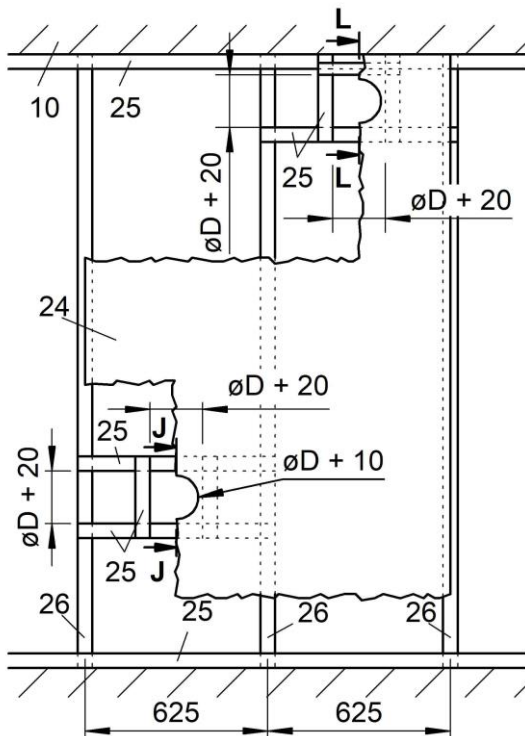
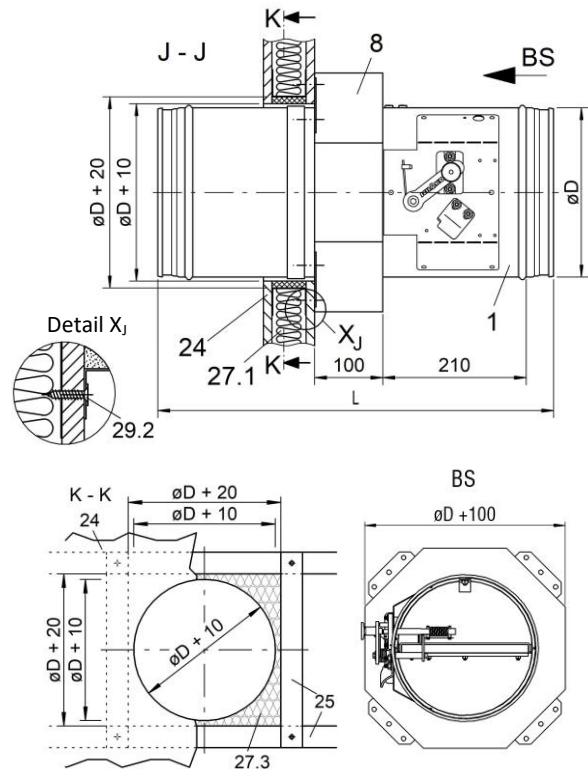

Figure 60: Metal stud frame plus required exchange parts for BSK-RPR with mounting frame AR (dry installation F30/F60), during the assembly of the wall
Figure 61: Dry installation on lightweight partition wall (F30/F60) with mounting frame AR, during the assembly of the wall
- Mount the metal stud frame, provide necessary metal post exchange parts (pos. 25) as shown on Figure 60 and Figure 61.
- Insert the mineral wool (of the wall), also in the area of the metal post exchange parts. If no mineral wool is to be used for the wall itself, mineral wool (pos. 27.3) must be inserted in the area of the exchange parts.
- Mount the wall panellings on both sides (pos. 24).
- Make the required circular recess in the centre of the circumferential metal post exchange parts (diameter: $\varnothing D + 10$ mm, see Figure 61).